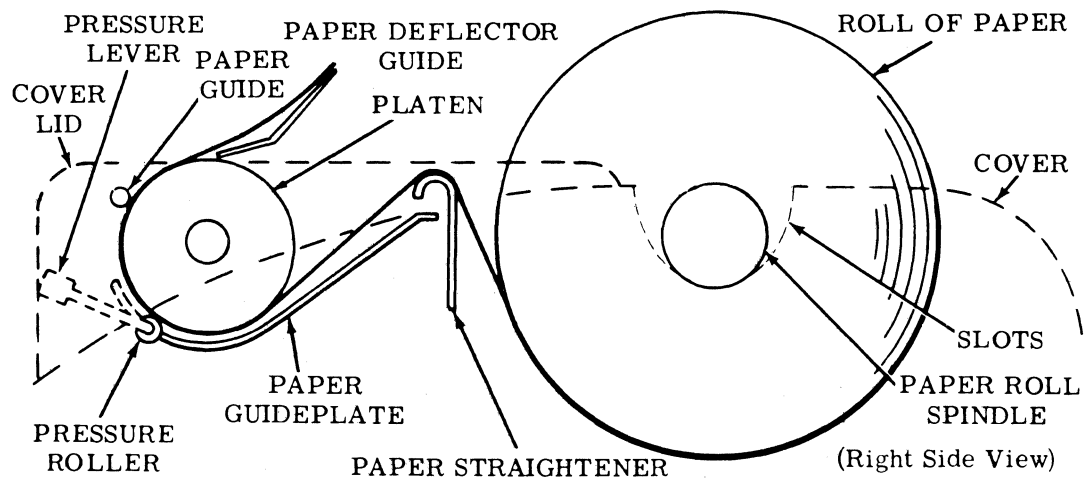

Figure 12 - Paper Threading — Friction Feed
- 3.11 A friction feed teletypewriter set accommodates a standard roll of paper 8-1/2 inches wide and 5 inches in diameter. Figure 12 illustrates paper threading for a friction feed typing unit.